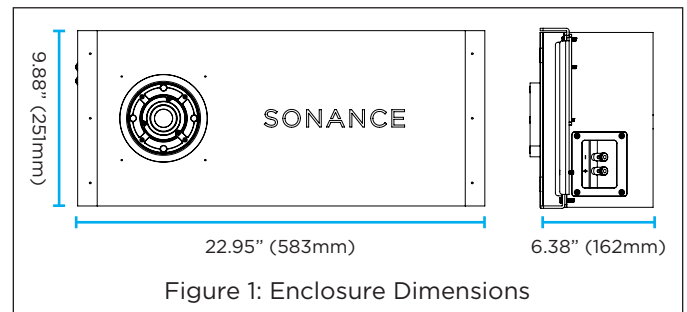

Figure 1: Enclosure Dimensions
- Six (6) Wood Screws (included)
1. Select the desired location for your SA4-66 speaker, ensuring proper space to accommodate the dimensions of the enclosure with desired positioning of the opening for the module. Use a laser level to ensure alignment with other speakers and ceiling elements such as lighting (see Figure 1).